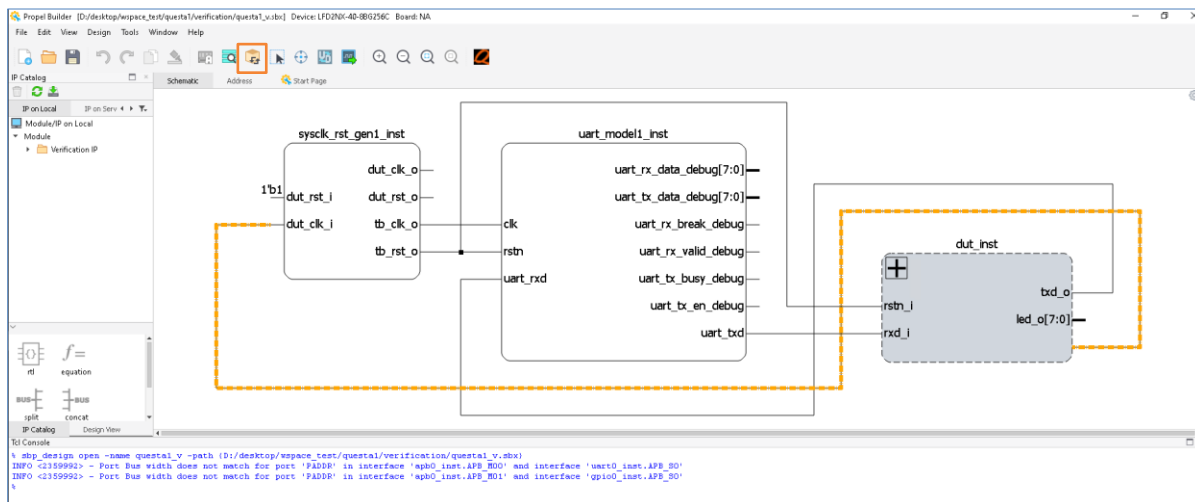

Figure 2.164. Generate Simulation Environment on Verification Project
- In verification project view, click Generate icon  in the Propel Builder Toolbar (Figure 2.164).
- SoC design project is called `***.sbx`. Verification project is called `***_v.sbx` (Figure 2.164).